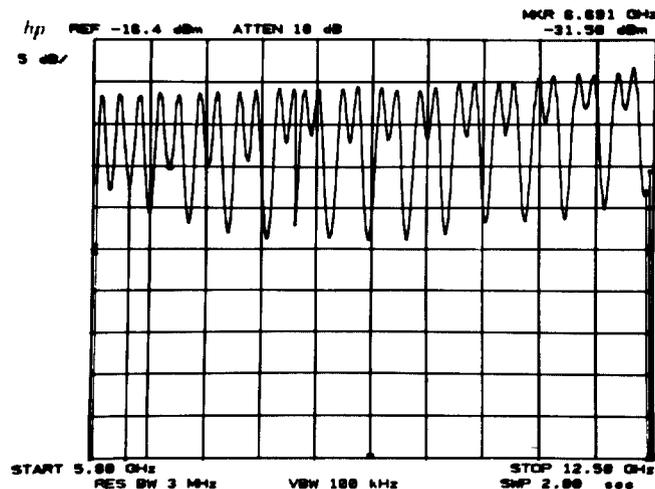

FIGURE 71. TYPICAL DISPLAY SHOWING MODULATION
54. At some point above 5.8 GHz, the frequency response will begin to go bad, as indicated by a larger peak-to-peak deviation of signal trace on the HP 8566B Spectrum Analyzer (DUT) display. Refer to Figure 71.
55. Press MARKER and adjust marker to point on trace where this begins to occur. Refer to Figure 71.
82. Press MARKER and adjust marker to point on trace where this begins to occur. Refer to Figure 71 for typical display.